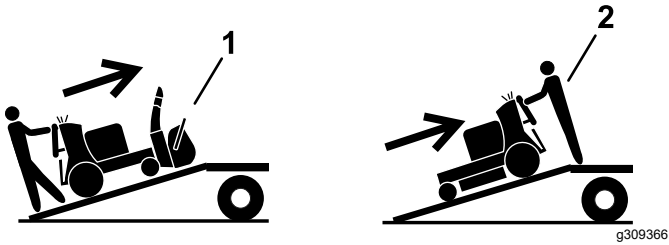

Figure 36
- If the attachment is not installed, load the machine with the rear up the ramp (Figure 36).